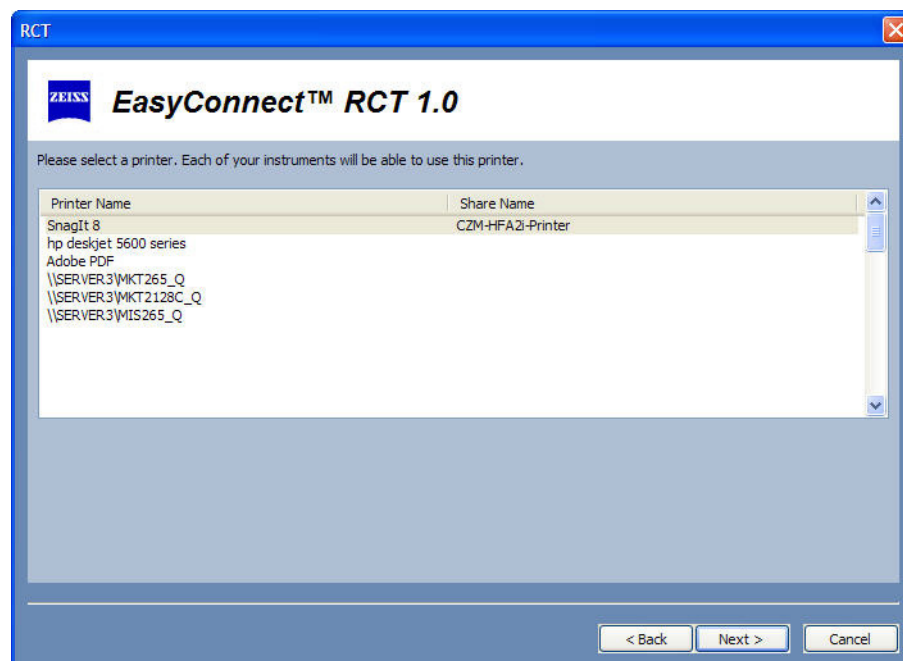

Figure G.10 Select a Printer to Share
- 5 If you previously selected a shared printer type of HFA setup, select a printer you want to share from the list of printers connected to the computer (Figure G.10). The first printer is selected by default.